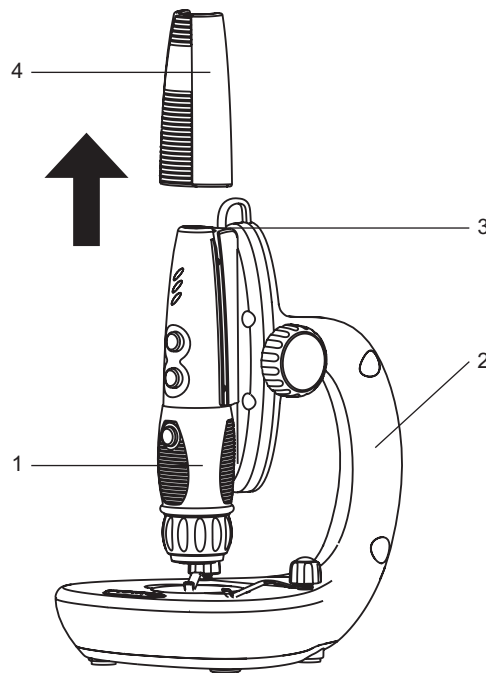

Fig.8a. Getting started to handheld operation mode.
- disconnect the USB cable from the socket (3) of the opto-electronical module **μView™** (1);
- remove the fixing cover (4) sliding it up as shown in fig.8a;